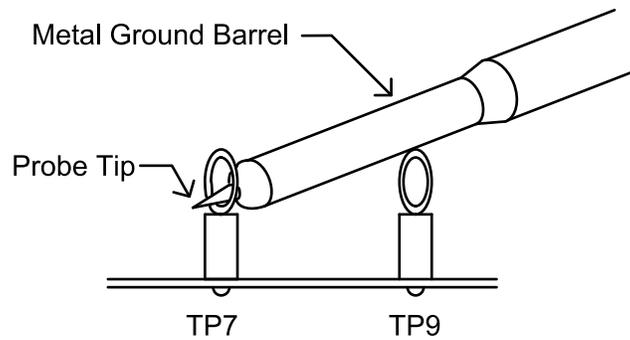
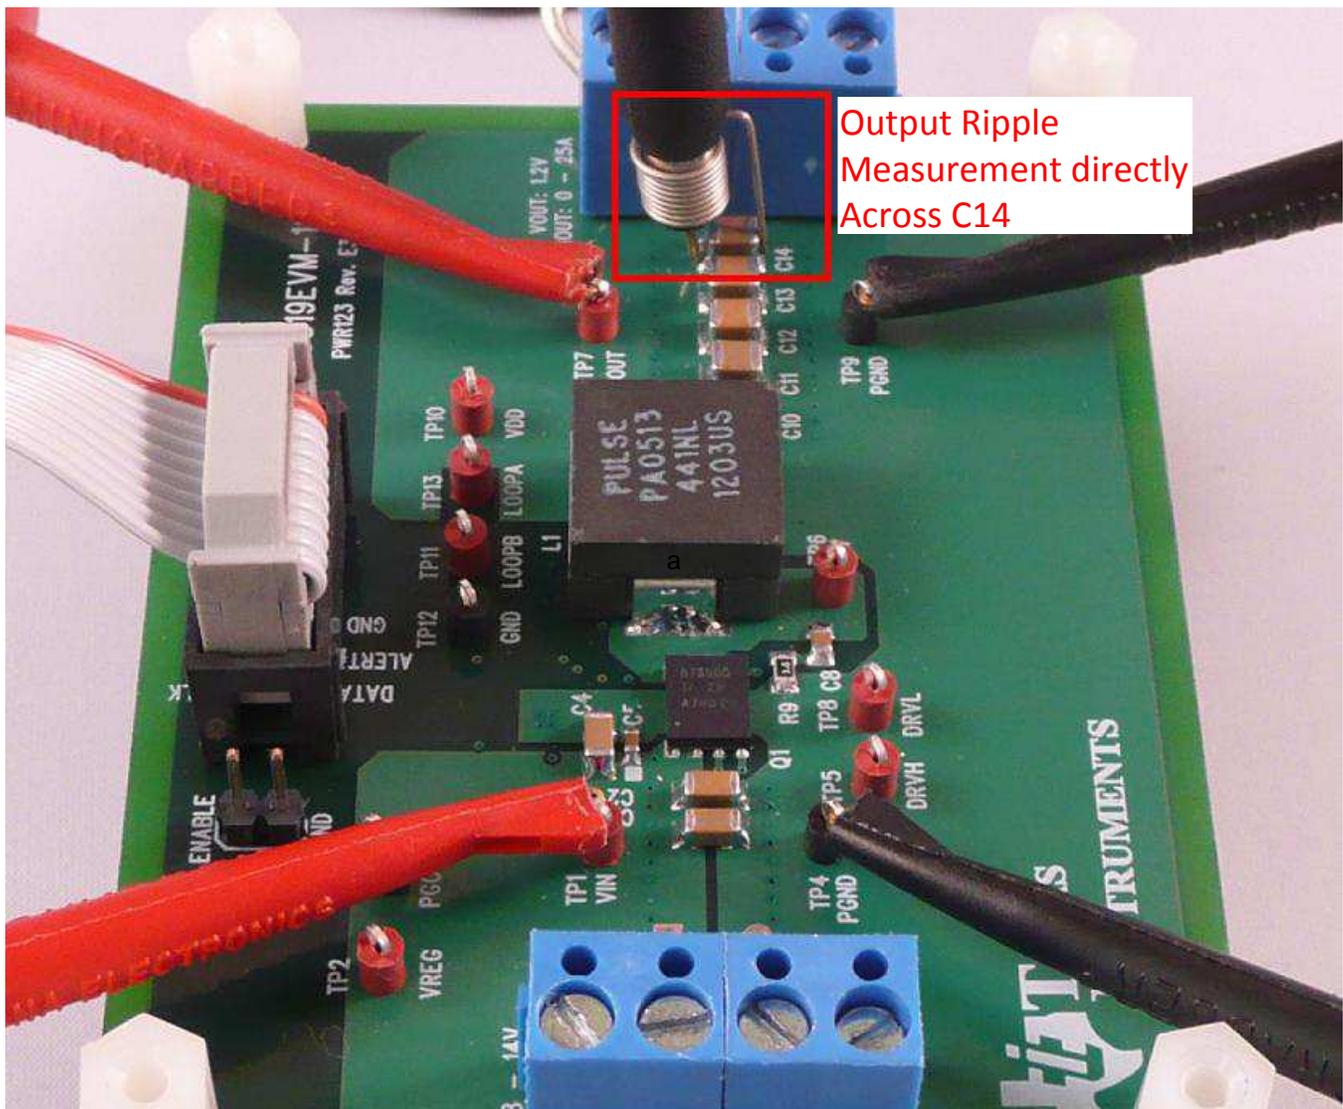

Figure 2. Tip and Barrel Measurement for  $V_{OUT}$  Ripple
Figure 3. Probe with Short Ground Lead for  $V_{OUT}$  Ripple Across C14
**Voltage Source:** The input voltage source  $V_{IN}$  should be a 0–14-V variable DC source capable of supplying 30 Adc. Connect  $V_{IN}$  to J4 as shown in Figure 3.
**Oscilloscope:** A digital or analog oscilloscope can be used to measure the output ripple. The oscilloscope must be set for 1-M $\Omega$  impedance, 20-MHz bandwidth, AC coupling, 2- $\mu$ s per division horizontal resolution, 20-mV per division vertical resolution. As shown in Figure 2, test points TP7 and TP9 can be used to measure the output ripple voltage by placing the oscilloscope probe tip through TP7 and holding the ground barrel to TP9. It is not recommended to use a long leaded ground connection because this may induce additional noise due to a large ground loop. Alternatively the output ripple can be measured directly across C14 with a short ground lead as shown in Figure 3. To measure other waveforms, adjust the oscilloscope as needed.